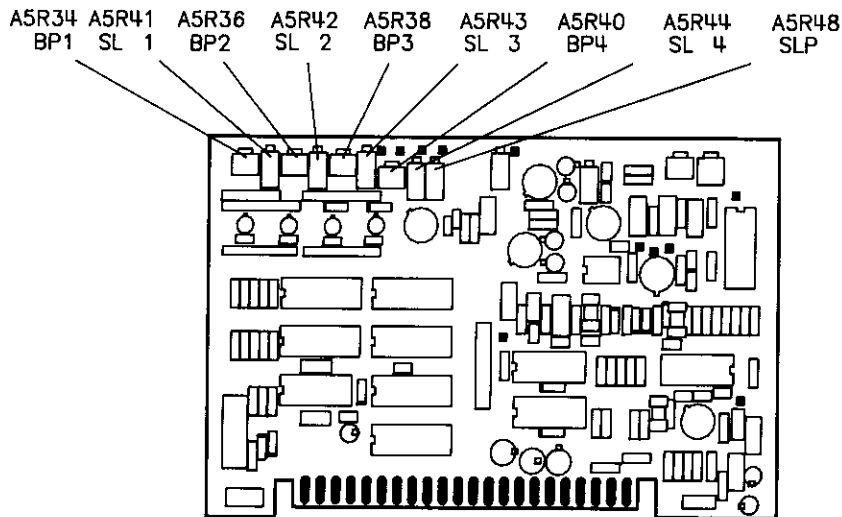

Figure 5-35. Internal Leveled Flatness Adjustment Location
4. Set A5R34, A5R36, A5R38, and A5R40 (BP1 — BP4) fully CW. Set A5R41 through A5R44 (SL1 — SL4) to mid-range. Refer to Figure 5-35.